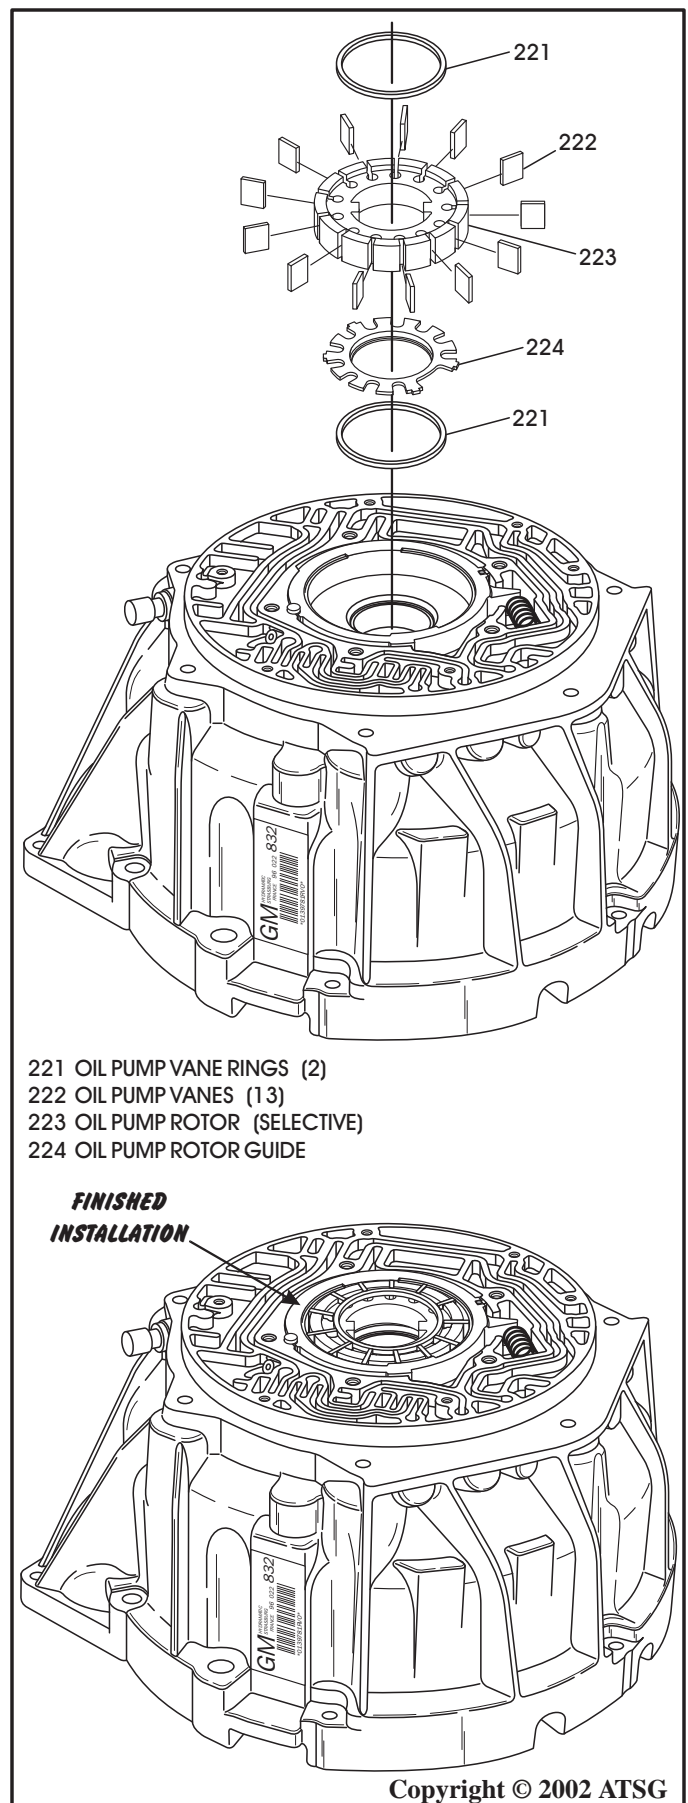

Figure 66
25. Install one of the oil pump vane rings into the pump pocket, as shown in Figure 66.
27. Install the 13 oil pump vanes into their slots in the rotor, as shown in Figure 66.
28. Install the other oil pump vane ring on top of the rotor and inside of the oil pump vanes. The finished assembly should look like illustration in Figure 66.